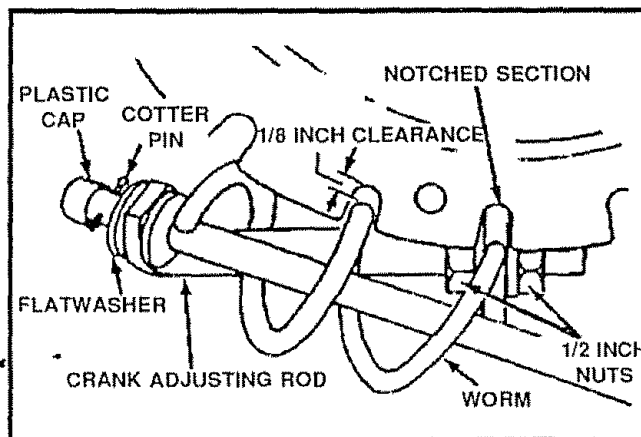

FIG. 5
- Remove the plastic bag, the plastic cap, the cotter pin and the washer from the crank assembly and set aside (See Fig 5)
- Rotate the notched section of the discharge chute toward the crank-adjusting rod (See Fig 5)
- Install the wormed end of the crank through the hole in the adjusting rod and secure the end with the flatwasher and cotter pin, as shown in Fig 5
- Rotate the chute crank fully clockwise and fully counter-clockwise. The discharge chute should rotate fully with approximately 1/8 inch clearance between the worm and the bottom of the notch (See Fig 5)